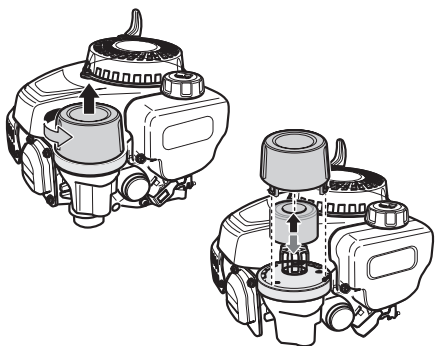
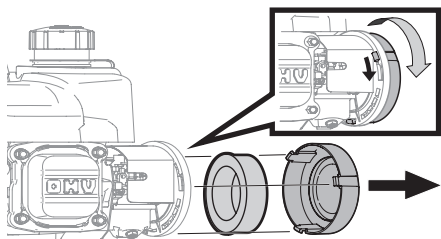

Figure 12
Figure 13
1. Turn the air filter cover counter-clockwise and lift up (79cc and 132cc, Figure 12) or pull away from the filter base (140cc, Figure 13).